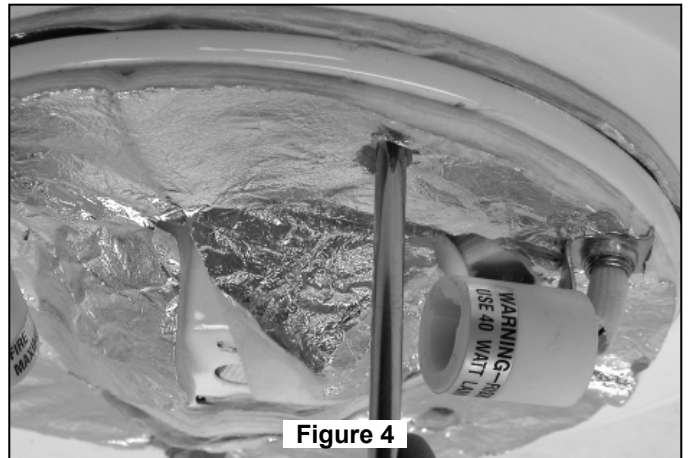

Figure 4
7. Attach assembled blade arms to the motor hub using the provided  $\frac{1}{4}$ "-20 philips screws (with spring washers). Make sure the screws securing the blade arms to the motor hub are tight and are properly seated. (Figure 4)
4. Securely attach Downlight Socket Plate Assembly to the Adapter Plate by tightening three screws with spring washers (5/32-32 x 7 mm) provided with the fan. (Figure 4)
Be sure to line up the curved slotted holes located on both Lower Housing Support Plates. (Figures 4 & 5)